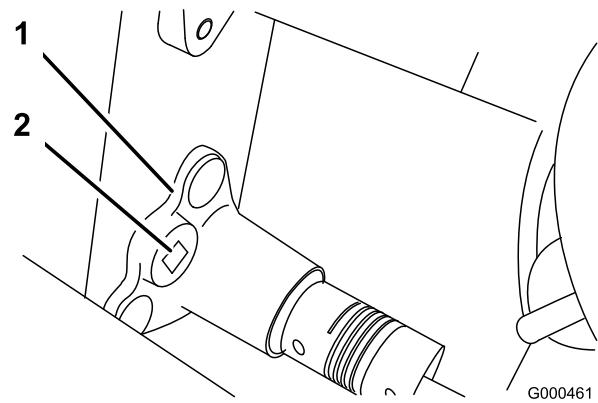

Figure 40
- B. Using a  $3/8$  inch drive torque wrench, rotate the bearing housing with 35-40 in.-lb. of torque to set belt tension (Figure 40).